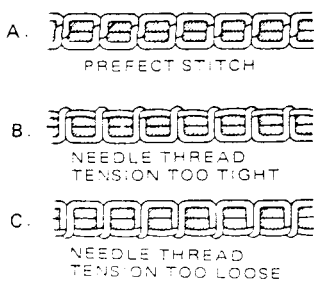

Fig. 29
- Normally, tension on the needle and bobbin threads should be balanced so that if you were to look at the cross section of a line of stitching, the needle and bobbin threads would be locked in the center of the thickness of the material as shown in Fig. 29-A.
- Incorrect settings will produce the conditions shown in Figs. 29-B and 29-C.